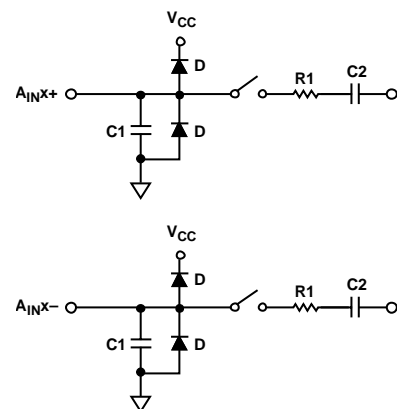

Figure 33. Equivalent Analog Input Circuit, Conversion Phase—Switches Open, Track Phase—Switches Closed
Figure 33 shows the equivalent analog input circuit of the AD4682 and the AD4683. The four diodes (D) provide ESD protection for the analog inputs. Ensure that the analog input signals do not exceed the supply rails by more than 300 mV. Exceeding the limit causes these diodes to become forward-biased and start conducting into the substrate. These diodes can conduct up to 10 mA without causing irreversible damage to the devices.
The C_1 capacitors in Figure 33 are typically 3 pF and can primarily be attributed to pin capacitance. The R_1 resistors are lumped components made up of the on resistance of the switches. The value of these resistors is typically about 200 Ω . The C_2 capacitors are sampling capacitors of the ADC with a capacitance of 15 pF typically.